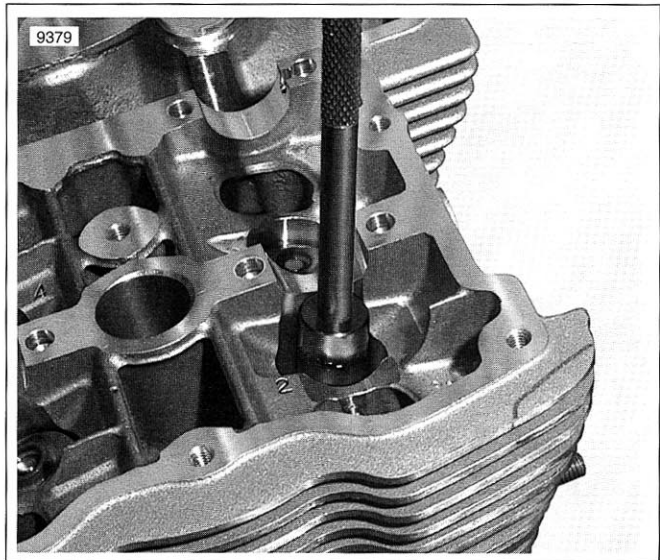

**Figure 3-49. Valve Guide Removal**
13. See Figure 3-49. Remove and replace the valve guides that do not meet specifications. Position head for removal of valve guide. Use CYLINDER HEAD SUPPORT STAND (HD-39782) with CYLINDER SUPPORT ADAPTER (HD-39782-13) for intake valves and CYLINDER SUPPORT ADAPTER (HD-39782-14) for exhaust valves.